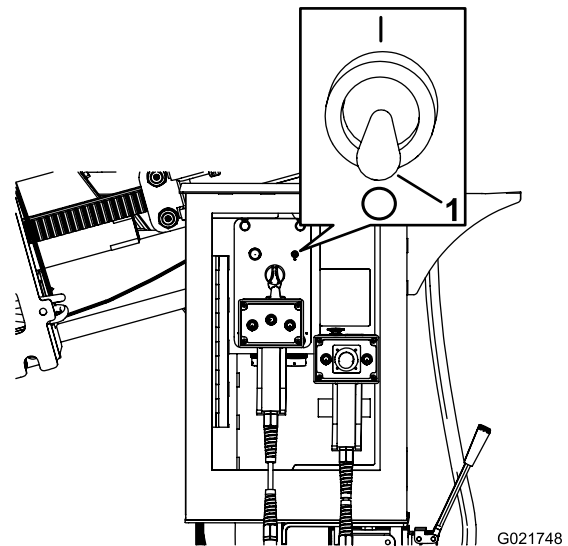

Figure 117
2. Ensure that the spray-hose attachment switch is in the OFF position (Figure 117).